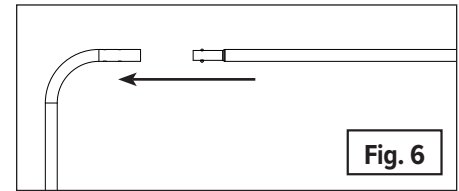

Fig. 6
1. **(Fig. 6)** Take the straight section of the side tube and locate both swagged ends. Insert one swagged end of the straight section into one of the bent legs.